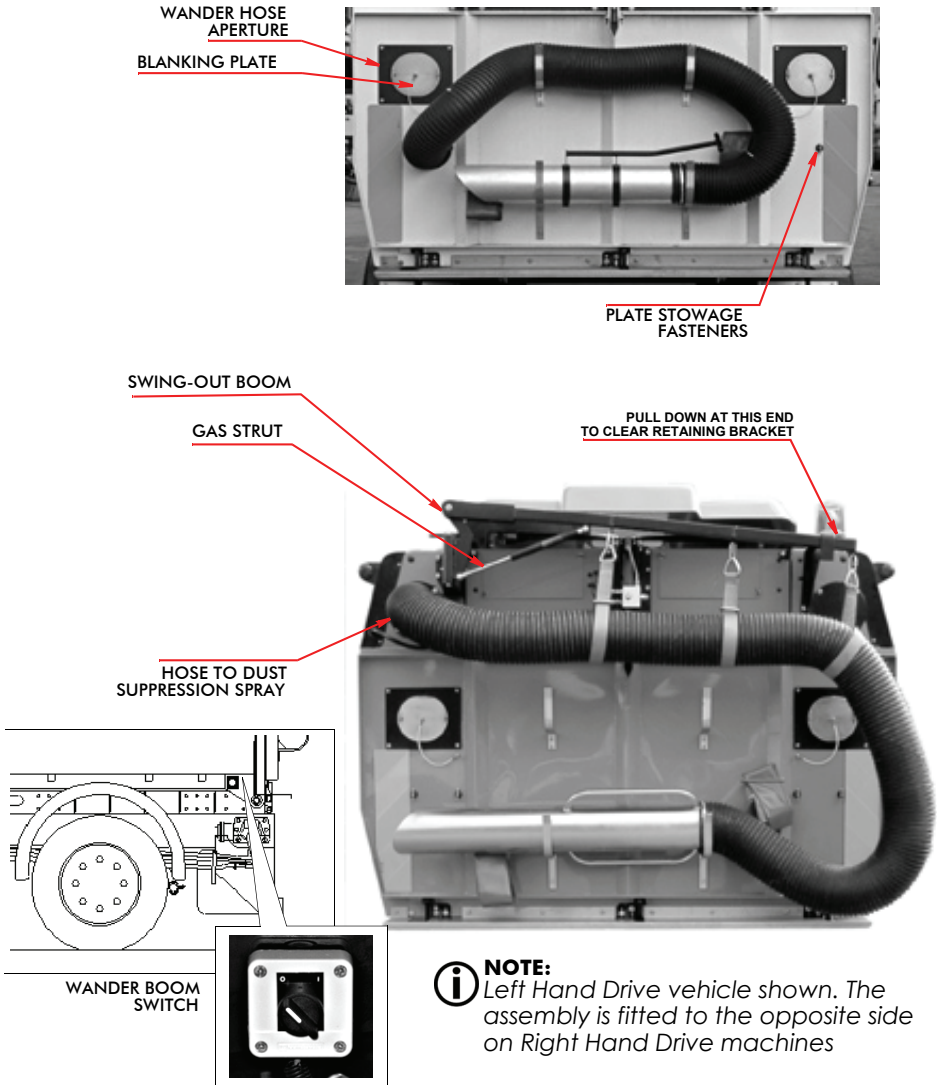

Fig. 7 Wander Hose & Wander Boom Arrangements
3. Rotate the wander boom switch to Position 1 'ON' (Fig. 7). The blanking flap will open and the dust suppression spray jets will start. The wander boom is now ready for use.